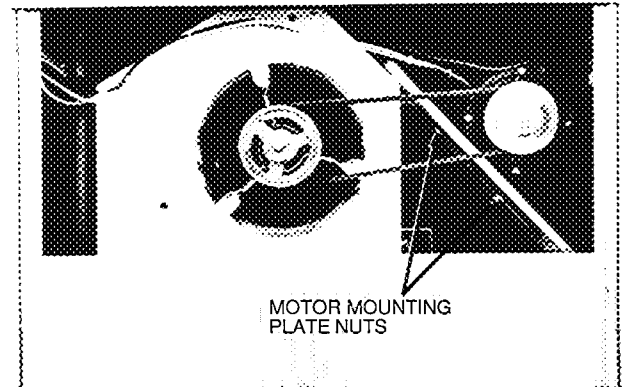

**Fig. 28 – Typical Belt-Drive Motor Mounting
2. Loosen belt by loosening fan motor mounting nuts. See Fig. 28 and 29.
2. *Sizes 006 and 008* — Slide motor mounting plate away from fan scroll for proper belt tension (1/2-in. deflection with one finger) and tighten mounting nuts (see Fig. 28).